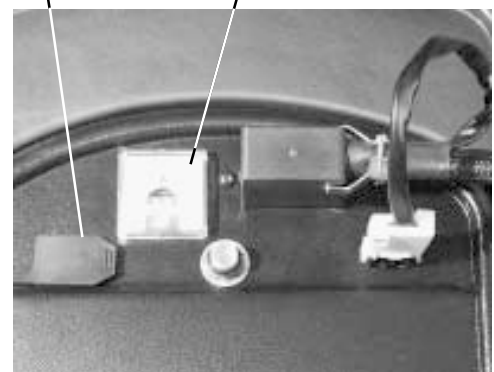

Figure 25. Utility Tray
3. Remove the battery charger cord from the back pouch of your Jet and plug it into the battery charger power outlet that is located on the utility tray. See figure 25.